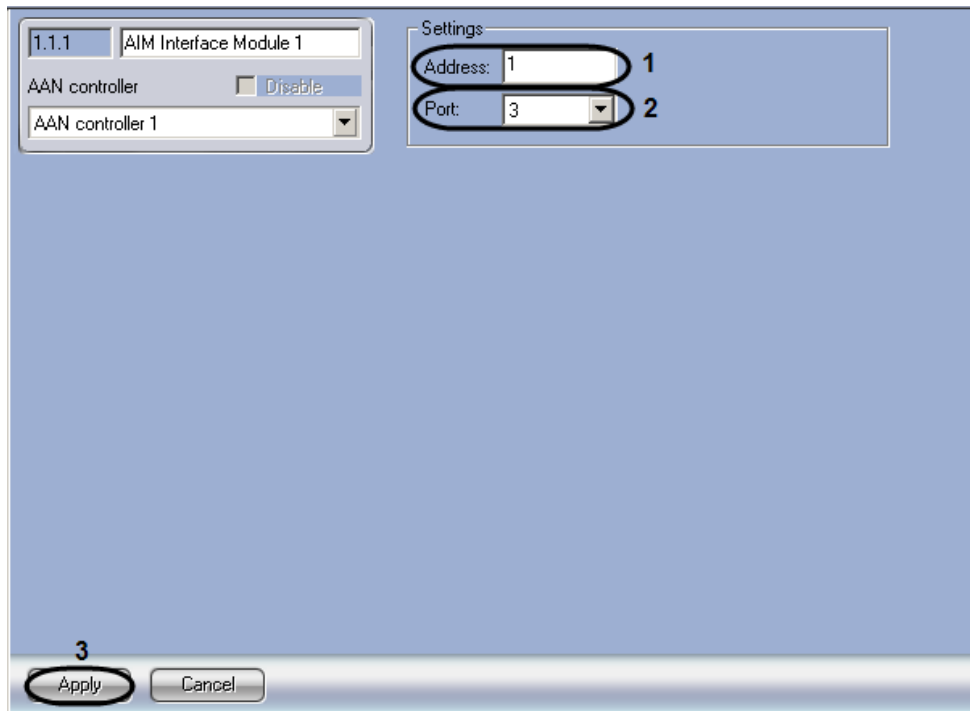

Fig.3.3-2 Settings pane of an AIM Interface Module object
1. Go to the **AIM Interface Module** object's settings panel (Fig.3.3-2).
2. In the **Address** field, enter the *AIM* Interface Module's unique address (see Fig.3.3-2, **1**).
3. Select the port used to connect to the *AIM* Interface Module from the **Port** dropdown list (see Fig.3.3-2, **2**).
4. To save changes, click the **Apply** button (see Fig.3.3-2, **3**).